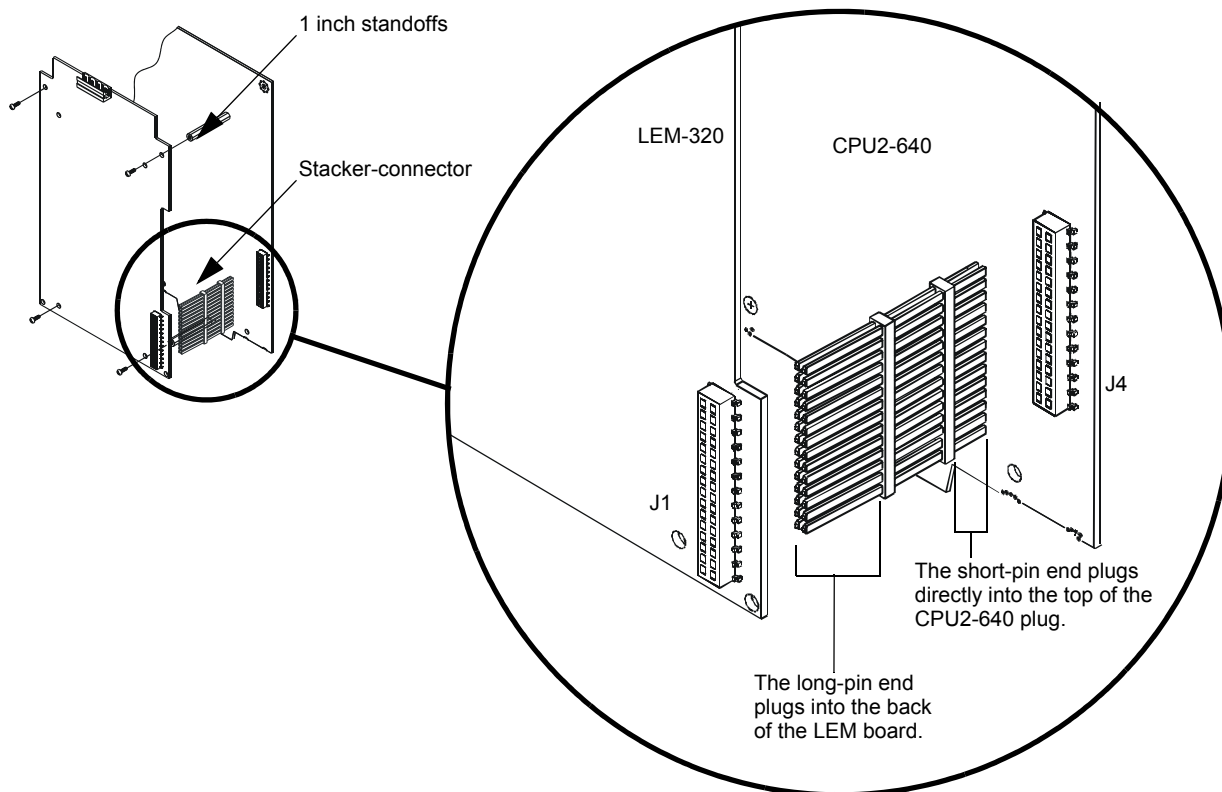

Figure 3.14 Mounting LEM-320 with the Stacker-connector
Installing a Loop Expander Module adds a second SLC loop to the control panel. Refer to Figure 3.14 for stacker-connector illustrations.
2. Align the LEM with the four 1 inch standoffs and the stacker-connector as shown in Figure 3.14; firmly seat the stacker-connector.
CAUTION: For the SLC to function correctly, the stacker-connector must be installed as shown in Figure 3.14. **Do not** install other option modules on top of the LEM-320.